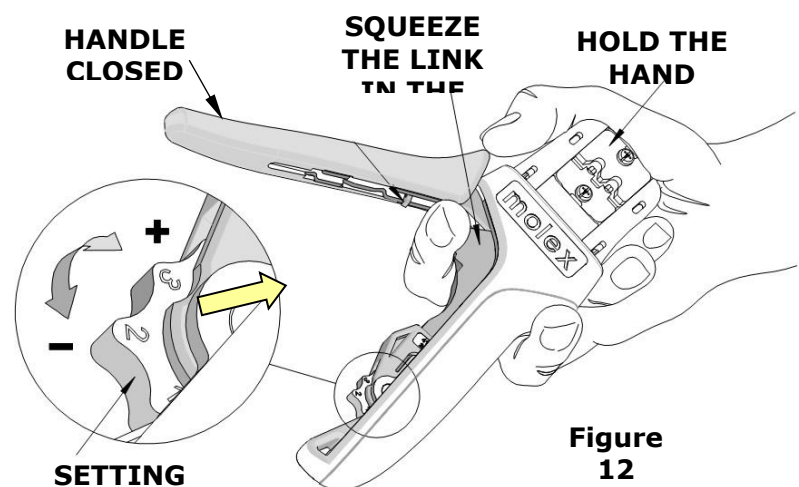

Figure 12
How to Adjust Tool Preload (See Figure 12)
3. Hold the hand tool in the palm of your hand as shown in Figure 12. Using your index finger, squeeze the link toward the top of the hand tool frame. This will release the preload adjustment wheel.